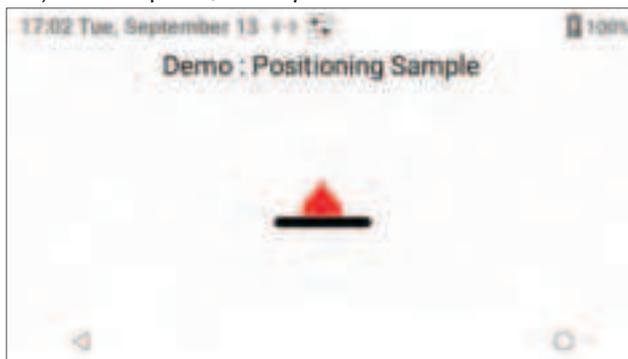

Figure 45: Demo – Positioning Sample
- 4 The demo displays  (Sample in Test Channel), indicating the sample volume is adequate. The instrument draws the sample into the test channel of the test cartridge and proceeds with the analysis of the sample (Figure 45). At this point, the Operator would wait for the test results.